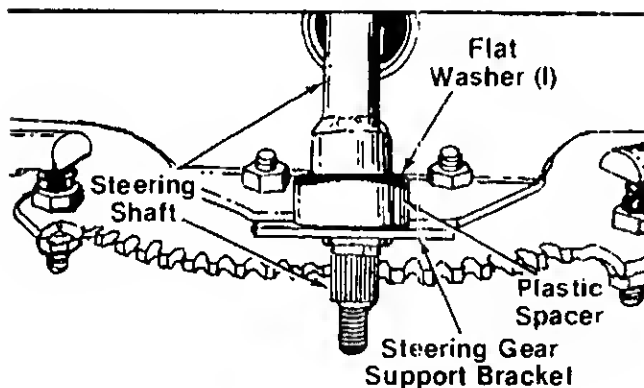

FIGURE 3.
3. Insert the **steering shaft** through the **steering housing cover**. Place **flat washer (I)** and **plastic spacer (J)** over end of **steering shaft** before inserting the shaft through the hole in the front end of the **steering gear support bracket** (Ref. No. 12 on page 26). See figure 3.